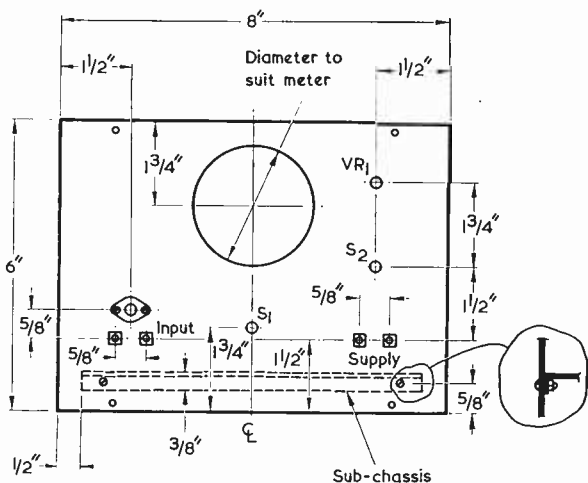

Fig. 8. The front panel, viewed from the front of the instrument
The front panel layout, with relevant dimensions, is shown in Fig. 8. To simplify construction the components on the front panel should be mounted and wired up before the sub-chassis and component board are fitted. The attenuator resistors R1 to R5 are wired directly across the switch contacts. Screened
*Rear view of the prototype model, illustrating the positions of the larger components. (The electronics board wiring shown here differs somewhat from the layout given in Fig. 8; an AND gate and inverter preceding the relay driver were included when the photograph was taken, these being later removed as unnecessary)*